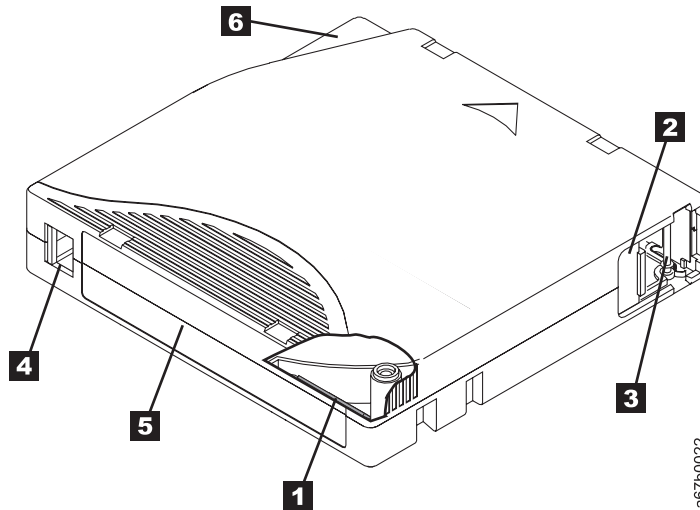

Figure 114. The IBM TotalStorage LTO Ultrium 200 GB Data Cartridge
Figure 114 on page 144 shows the TotalStorage LTO Ultrium 200 GB Data Cartridge and its components.
All generations of the IBM LTO Ultrium Data Cartridge includes a Linear Tape-Open Cartridge Memory (LTO-CM) chip (**1** in Figure 114 on page 144), which contains information about the cartridge and the tape (such as the name of the manufacturer that created the tape), as well as statistical information about the cartridge's use. Whenever you unload a tape cartridge, the Autoloader writes any pertinent information to the cartridge memory.
The cartridge door (**2** in Figure 114 on page 144) protects the tape from contamination when the cartridge is out of the drive. Behind the door, the tape is attached to a leader pin **3**. When you insert the cartridge into the drive, a threading mechanism pulls the pin (and tape) out of the cartridge, across the drive head, and onto a non-removable takeup reel. The head can then read or write data from or to the tape.
When attaching a bar code label to a tape cartridge, place the label only in the recessed label area (see **5** in Figure 114 on page 144). A label that extends outside of the recessed area can cause loading problems in the drive or the library.
- Position the label within the recessed label area (see **5** in Figure 114 on page 144).
- Do not drop the cartridge. If the cartridge drops, slide the cartridge door back and ensure that the leader pin is properly seated in the pin-retaining spring clips (see **2** in Figure 114 on page 144). If the leader pin has become dislodged, go to “Repositioning or Reattaching a Leader Pin” on page 152.